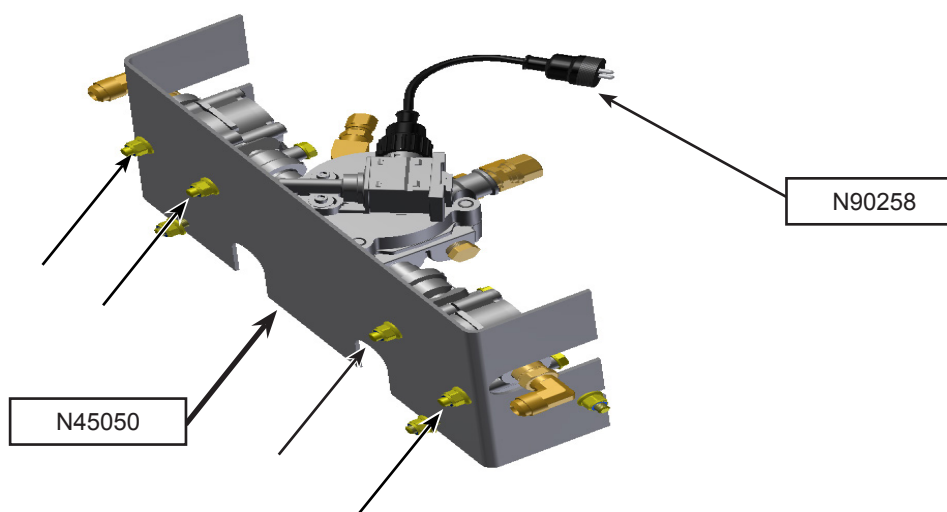

Figure 9 - Install the Brake Valve on the Bracket
- 1.10. Install the new brake valve on the original bracket N45050. Use 4x N65362 screws, 4x N29011 washers and 4x N43233 nuts. See Figure 9.
- 1.11. Install adapter N90258 if not already done. See Figure 9.